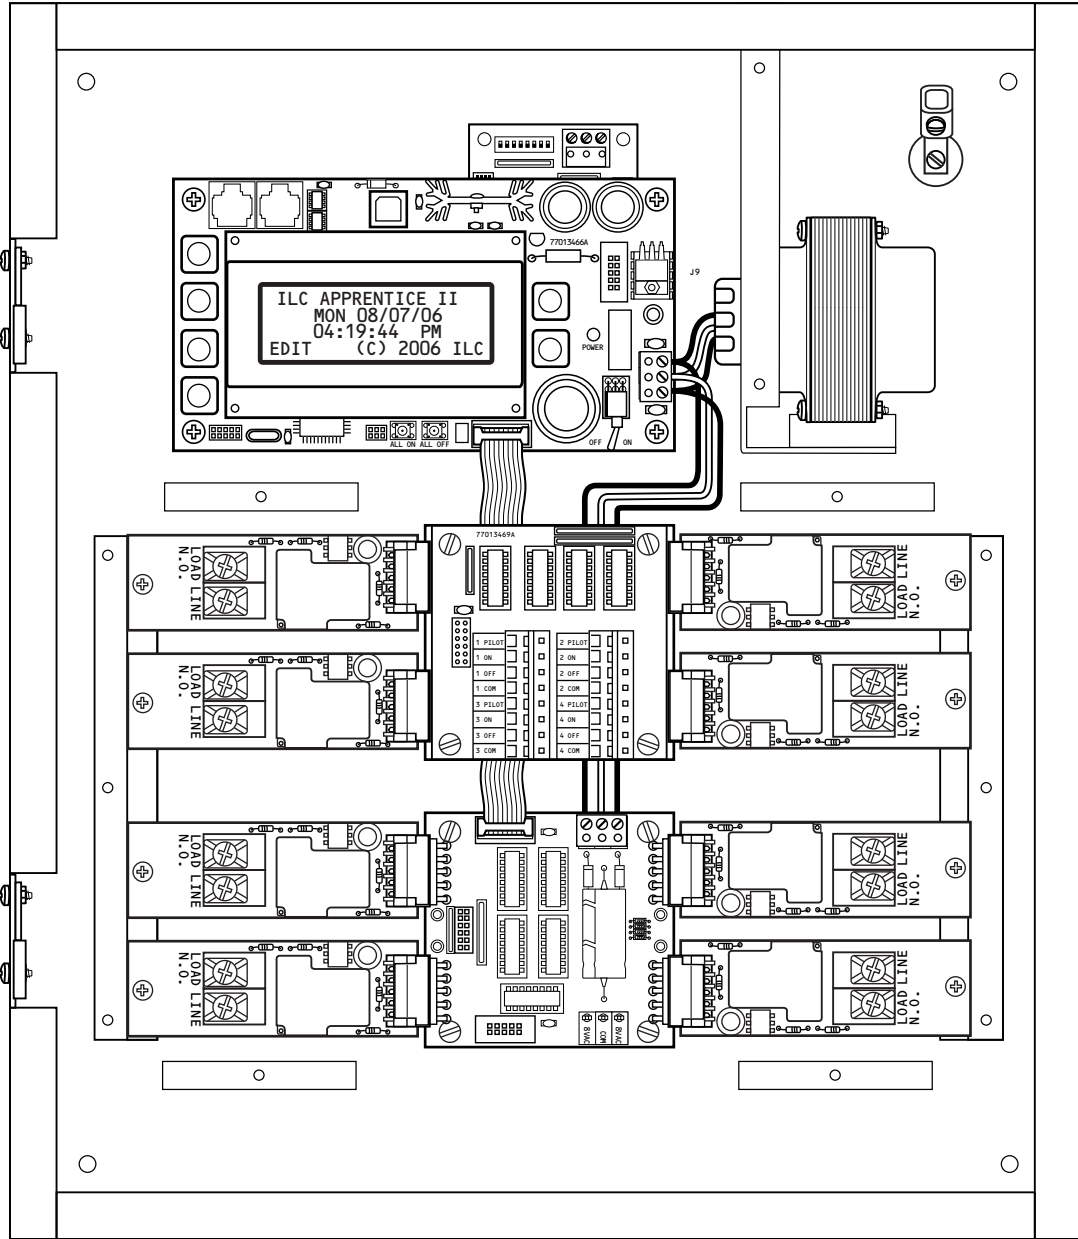

Figure 1.3 – ILC Apprentice II 08 with standard 4-inputs
1.1.4 Input Board(s) – Each Input board adds four (4) switch inputs and pilot outputs. The inputs are all optically isolated. Additional boards can be added to the enclosure to provide a network capacity of up to 48 switch inputs. (See Figure 1.3, which illustrates a ILC Apprentice II 8. Major components include: